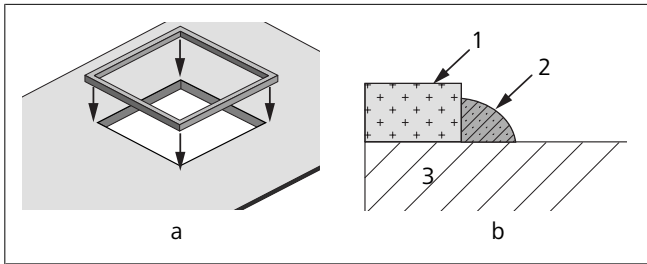
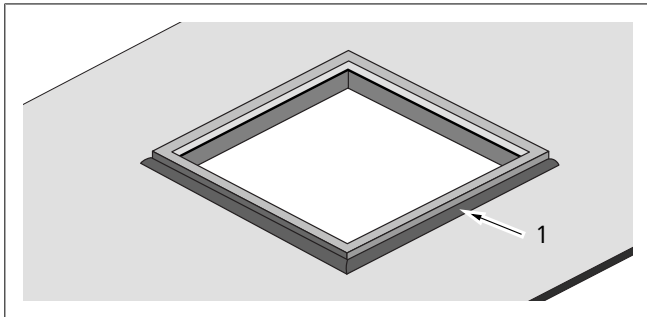

Fig. 14 CTT35 Mounting the gasket on a 360 x 360 cut-out (without an adapter frame)
Fig. 15 Application of sealant (only applicable to a gasket on a 360x360 cut-out (without adapter frame))
1. Peel off the backing paper and stick the gasket onto the roof (360 x 360 cut-out). See Fig. 14-a and b.
3. Apply self-levelling RV roof sealant around the gasket to prevent leakage. See Fig. 14-b and Fig. 15.